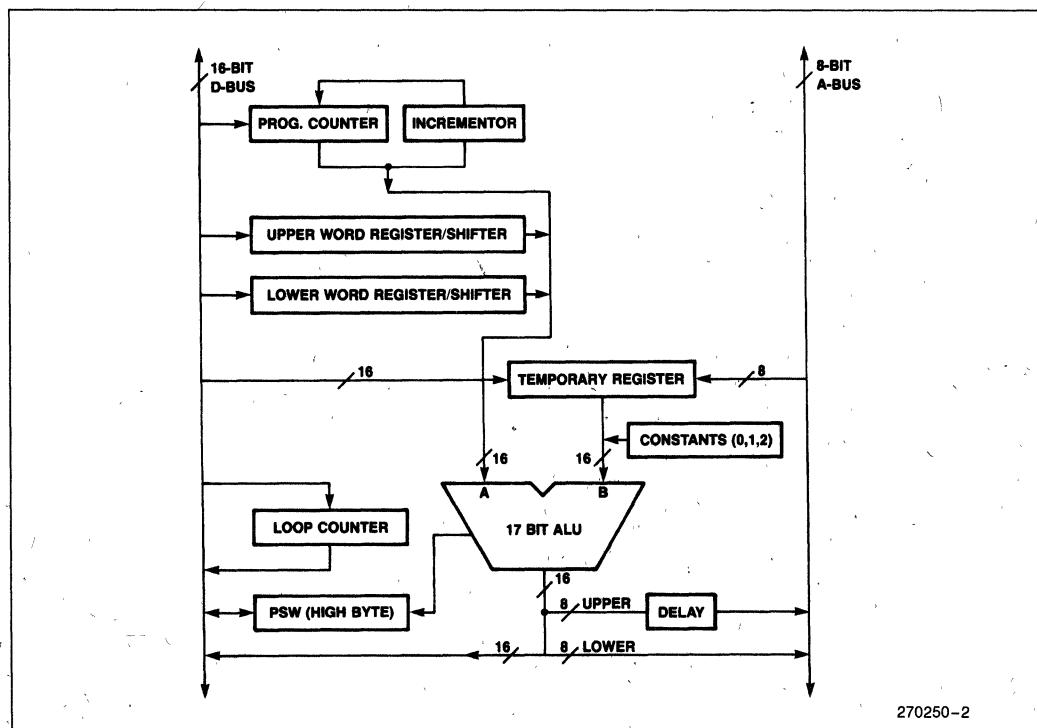

Figure 2. RALU Block Diagram
Most calculations performed by the 8X9X take place in the RALU. The RALU, shown in Figure 2, contains a 17-bit ALU, the Program Status Word (PSW), the Program Counter (PC), a loop counter, and three temporary registers. All of the registers are 16-bits or 17-bits (16 + sign extension) wide. Some of the registers have the ability to perform simple operations to offload the ALU.
The DELAY shown in Figure 2 is used to convert the 16-bit bus into an 8-bit bus. This is required as all addresses and instructions are carried on the 8-bit A-Bus. Several constants, such as 0, 1 and 2 are stored in the RALU for use in speeding up certain calculations. These come in handy when the RALU needs to make a 2's complement number or perform an increment or decrement instruction.